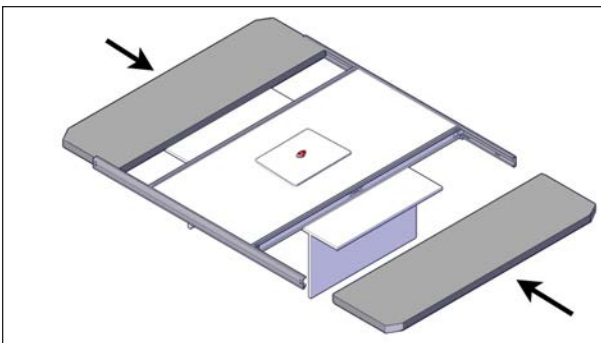

FIGURE 27: END PANELS
- Slide the end panels on both ends of the cover. Make sure the I-beams have slid over the panel on both bottom and top sides, see Figure 27.